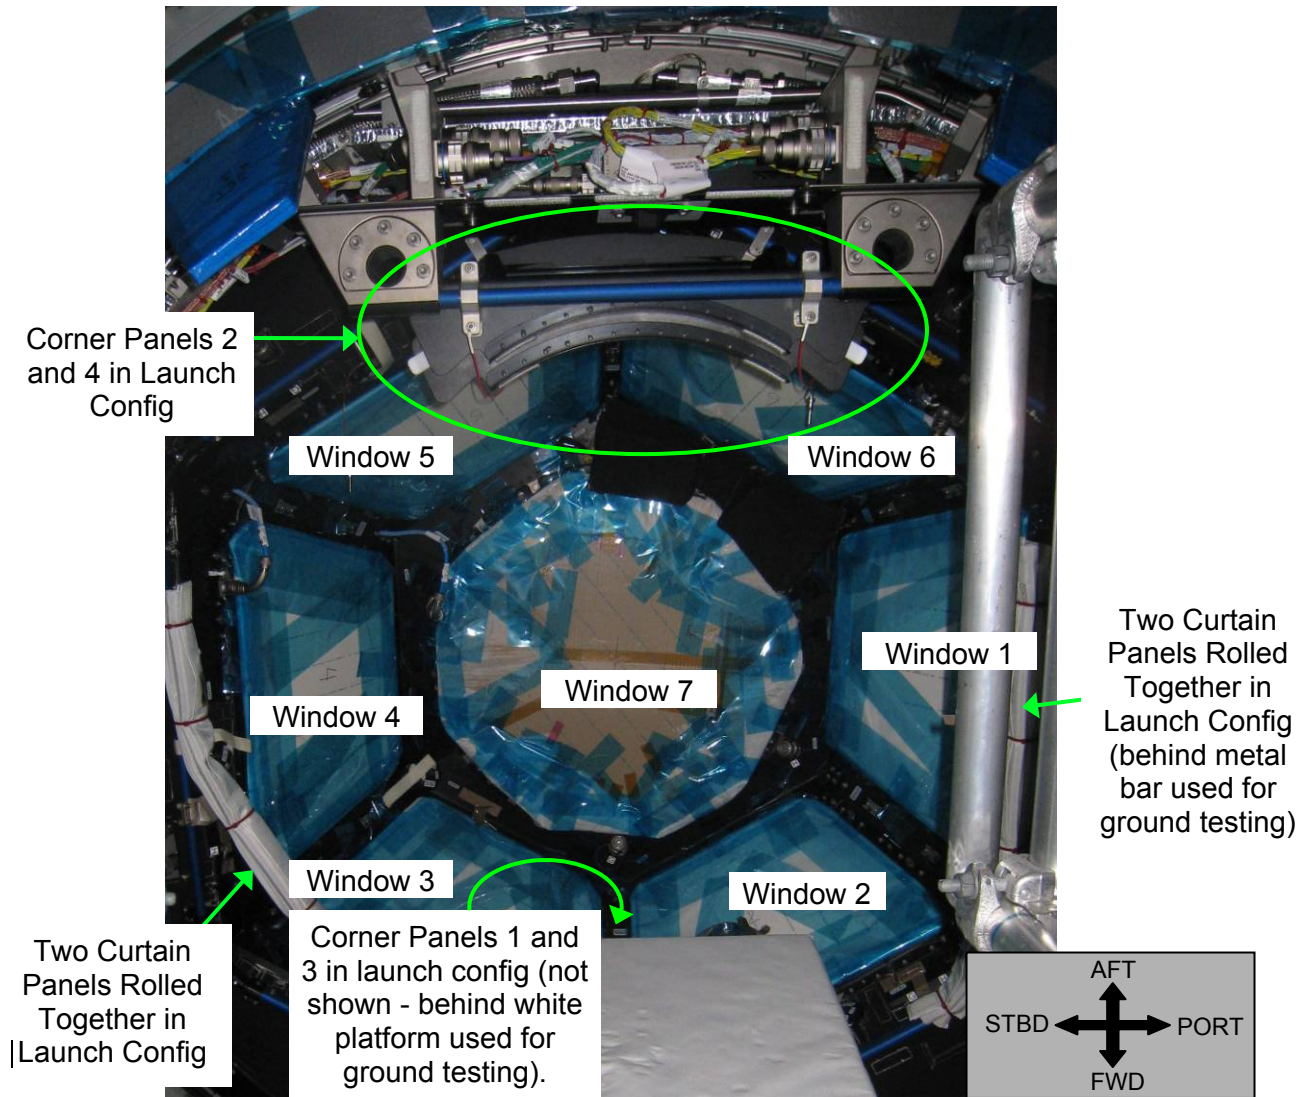

Figure 1.- Corner(Curtain Panel) Launch Configuration (Ground Photo).
- 1.2 Remove top of bracket attaching Corner Panel stack to Handrails, fasteners (two) (Driver Handle, 1/4" Drive; 5/32" Hex Head). Top of bracket will remain tethered to Corner Panel stack via tether. Refer to Figures 1 to 3.